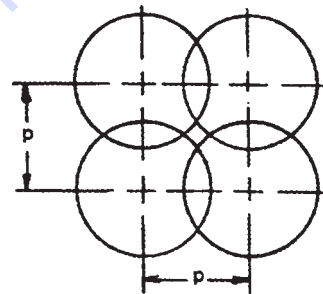

Figure 2. Compaction Coverage
5. See Compaction Coverage Chart, (Figure 2).